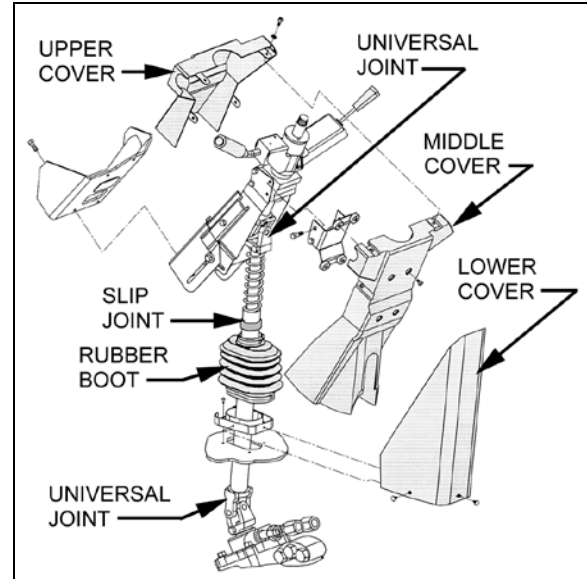

FIGURE 10: STEERING COLUMN COVERS
1. From the front driver's compartment area, remove the three plastic fasteners on steering column lower cover. Remove the lower cover (Figure 10).
2. Remove the 2 clockspring mounting screws and then remove the clockspring. You will have to disconnect the clockspring harness connector located lower along the steering wheel column. If necessary, remove the steering column covers (Figure 10).